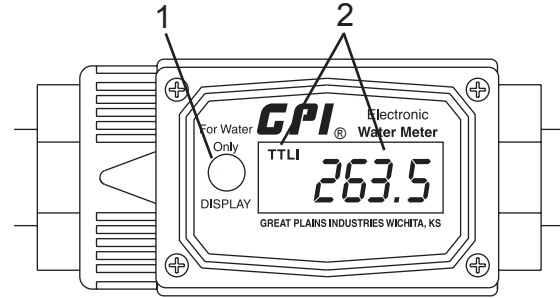

Figure 127
1. Activate the display by briefly pressing the DISPLAY button (Figure 127, Item 1).
2. Briefly press the DISPLAY button (Figure 127, Item 1) to change the total displayed - “Batch” mode (displayed as “TTL1”) or “Cumulative” mode (displayed as “TTL2”) (Figure 127, Item 2).
3. To reset the “Batch” total display, press and hold the DISPLAY button (Figure 127, Item 1) for three seconds.